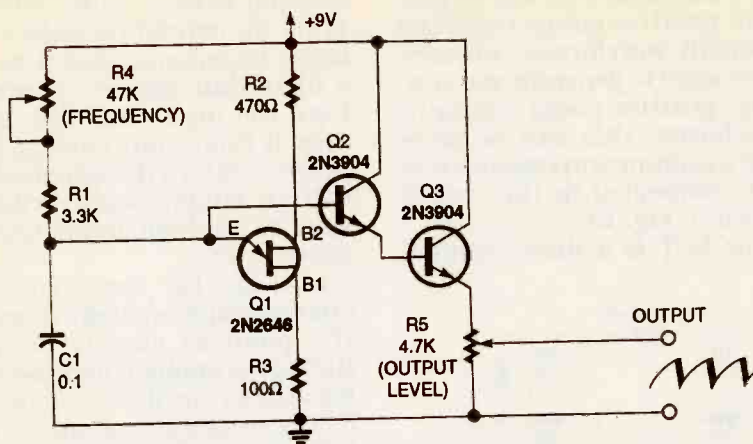
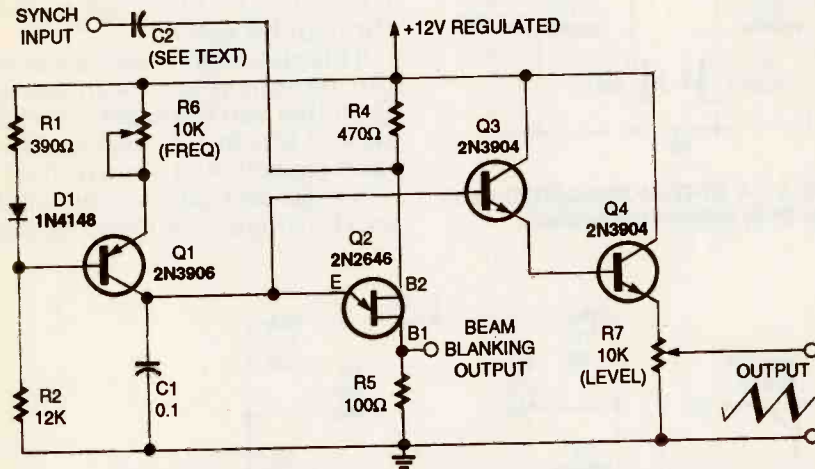

FIG. 12—A NONLINEAR SAWTOOTH GENERATOR that works over a range of 25 Hz to 3 kHz.
FIG. 13—THIS LINEAR SAWTOOTH GENERATOR can function as an oscilloscope timebase generator and can blank the CRT beam.
timer offers the best way to generate positive-going triggered sawtooth waveforms. However, if you want to generate free-running, positive-going sawtooth waveforms, this can be done with a unijunction transistor or UJT, connected in the circuit shown in Fig. 12.
In Fig. 12, capacitor C1 charges exponentially towards the positive supply voltage through trimmer potentiometer R4 and R1 until the voltage on C1 reaches the firing value of the UJT Q1. At that time, the Q1 switches on and rapidly discharges C1. As soon as C1 is discharged, Q1 turns off again, so C1 starts to recharge again through R4 and R1.
transistor whose terminals are identified as *emitter (E)*, *base 1 (B1)*, and *base 2 (B2)*. A UJT is connected as shown in Fig. 12 as Q1 with its B2 positive with respect to B1, and with the input applied to its emitter terminal.
The linear sawtooth generating circuit in Fig. 12 can be modified to become an oscilloscope timebase generator. The modified circuit is shown in Fig. 13. Capacitor C1 is charged by a constant-current source. In this circuit, Q1 functions as a temperature-compensated, constant-current generator. Its current can be varied from 35 to 390 microamperes by adjusting frequency trimmer potentiometer R6.
The operating frequency of the Fig. 13 circuit can be varied from 60 to 700 Hz with R6 if all of the component values are as shown. Other frequency ranges can be obtained by substituting other values for capacitor C1. The timebase generator can be synchronized to an external signal by feeding the external signal to UJT Q2 through the sync input capacitor C2.